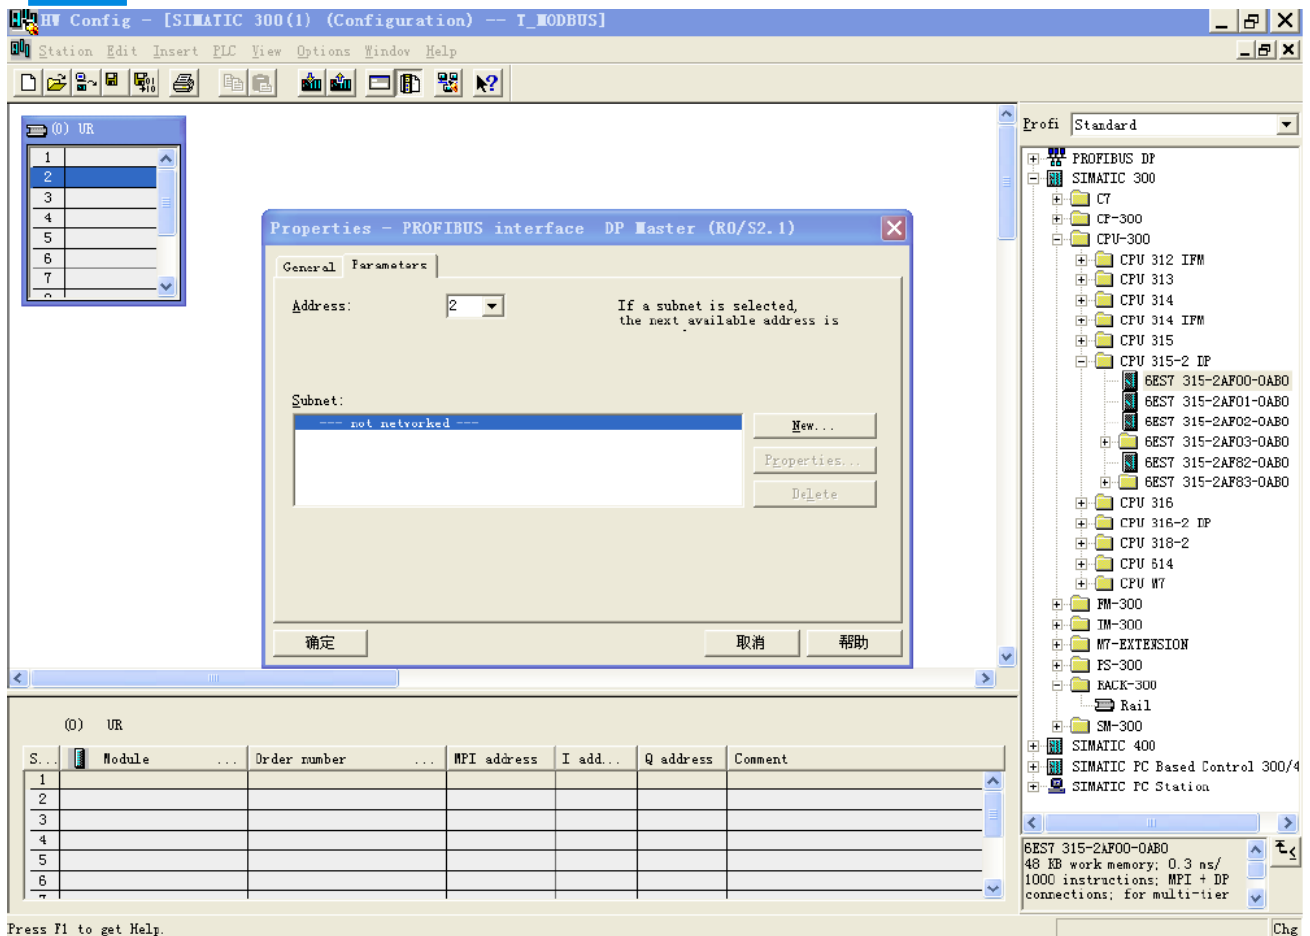

Figure 7
7. Set PLC rack, click the "Hardware Catalog \ SIMATIC 300 \ RACK-300 \ Rail"; Figure 7: